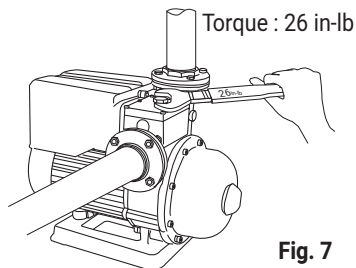

Fig. 7
1. Before starting, the pump must be primed. For installation with no inlet pressure, please follow the procedure as shown in Fig 7.